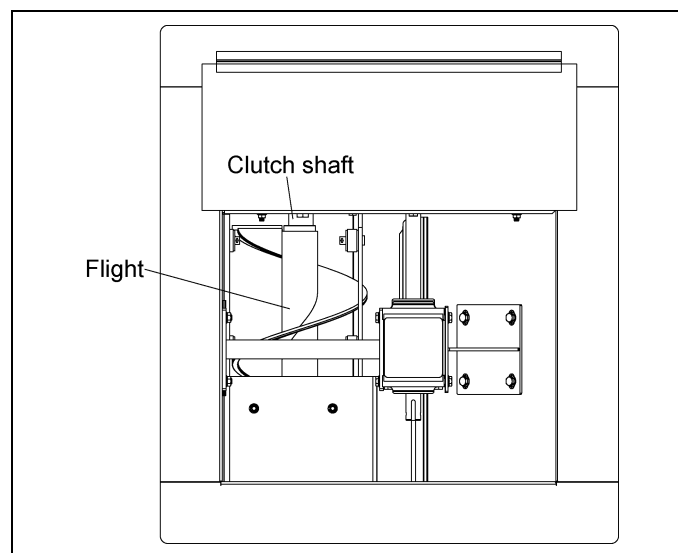

Figure 4V
4. On the initial stage, install with an empty bin, the installer might want to open the center well and enter the bin to check and see that the flight is seated. Once they have seen that it has seated, they will know the proper position of the flight on the discharge end when it has seated properly. (See Figure 4V.)